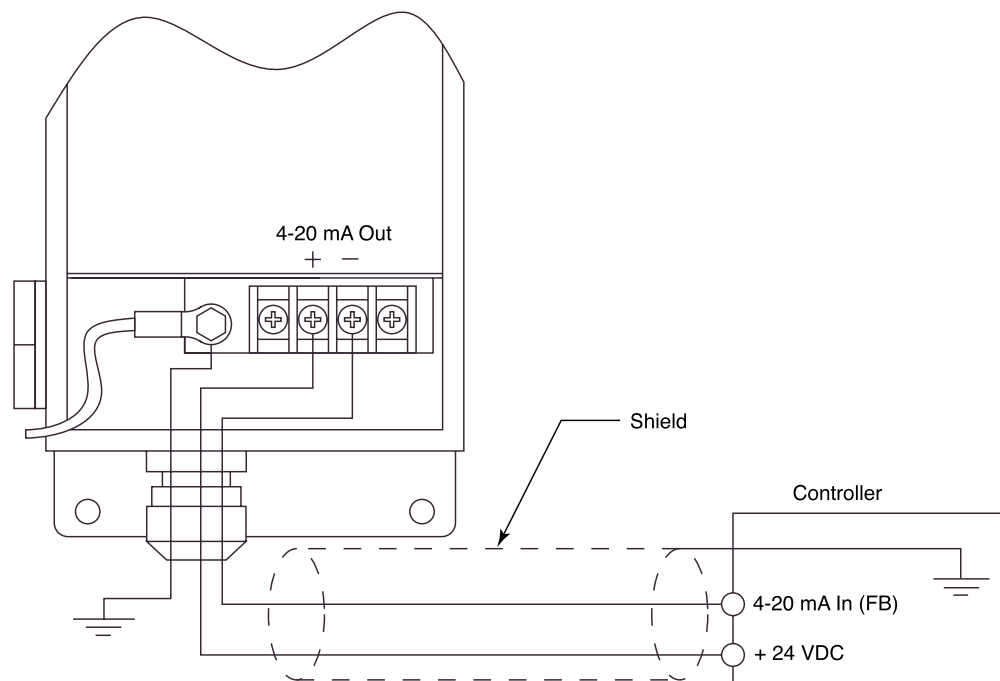

Figure 4: Wiring the GD-K8A to a Controller
4. Connect the two wires between the GD-K8A and the controller as shown in Figure 4 below.